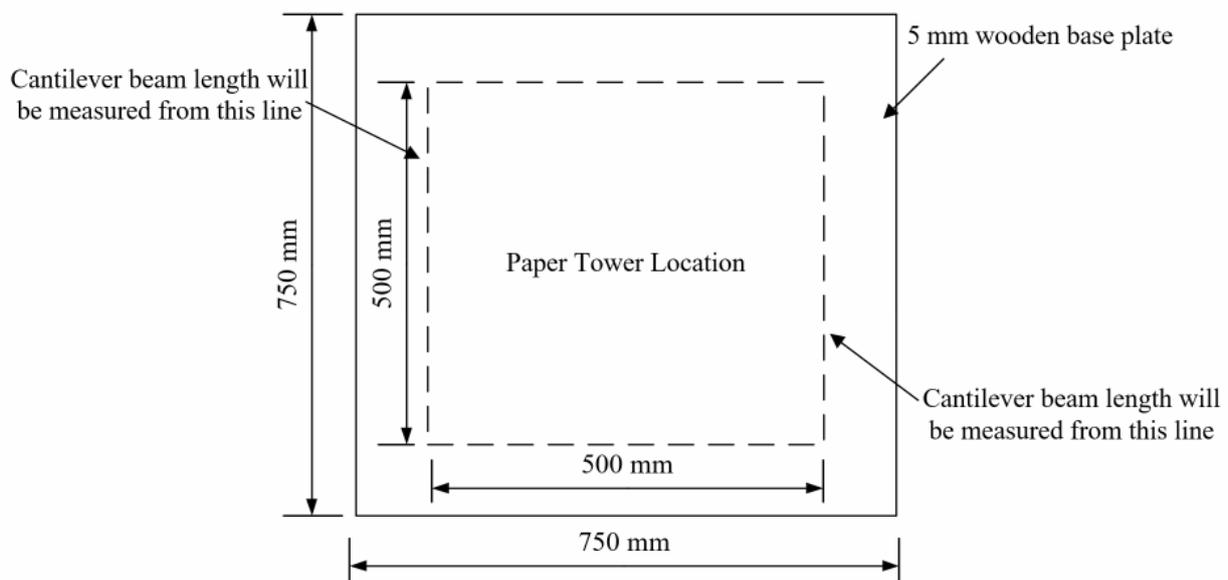

Figure 1: The base limit of paper tower
4. The total height of tower should be between 1.0 m and 1.5 m. As illustrated in Figure 1, the length and width of the base shall not exceed 50 cm (A 50 cm x 50 cm square will be shown on the baseboard). The length of each cantilever beam is between 20 cm and 50 cm (which is measured from the edge of the base to the loading point). Towers that do not meet these size requirements will be DISQUALIFIED. The headroom below the two cantilever beams must be at least 50 cm (which is measured from the lowest point of the cantilever arm to the base). The loading point of each cantilever beam must be designed by the students.
As illustrated in Figure 1, the base of the tower should not exceed the boundary defined by a 500 mm × 500 mm square. If the base of the tower lies outside this boundary, the team will be DISQUALIFIED.
During each loading attempt, loads must be applied simultaneously on both cantilever arms to ensure balanced structural behavior. Each team is allowed up to three loading attempts, regardless of success or failure. The applied load may be increased progressively, and the highest successfully completed loading level will be taken as the valid result. Scoring will be based on both the applied load and the distance from the loading point to the cantilever beam length measurement line shown in Figure 1, in accordance with Table 1. It is important to note that the maximum weight that can be added to the structure is 1000 g. If the hanger of the structure touches the ground within 10 seconds after weights are added, it will be classified as a "failure".